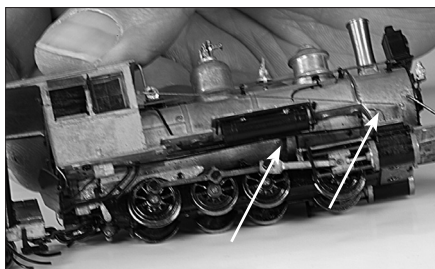

Figure 14 - Remove the reach rod and steam chest lubricator wires.
5. With tweezers, gently pull the reversing reach rod on the right side and both of the chest lubricator lines (wires) from the boiler and steam chest tops respectively. See Figure 14.